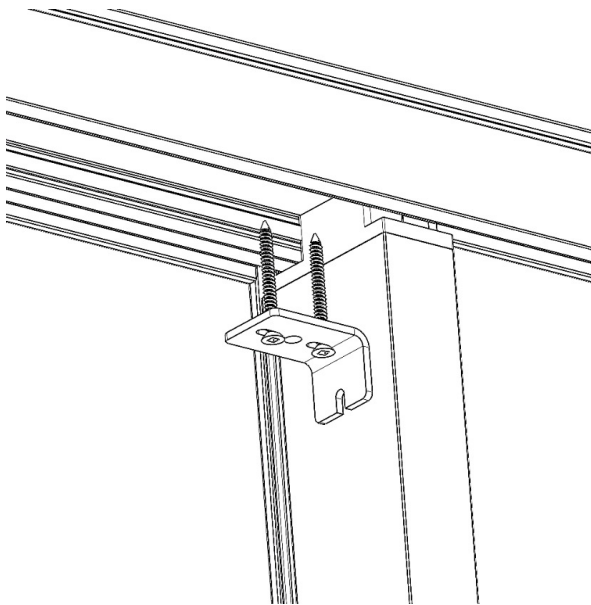

Figure 5
9. With the frame head parallel with the sill assembly, secure the fixed panel. Position the fixed clip into the head, using clip pre-drilled holes as a guide, drill clearance holes for assembly screws. Anchor the fixed clip to the frame head with a pair of #10 x 2-1/2" PH Flat Head screws. (See Figure 5).